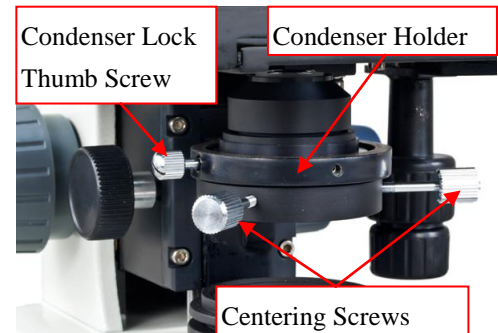

Fig.8
- Loosen the condenser lock thumb screw, pull down the condenser and take it off, insert the dry darkfield condenser in, and tighten the condenser lock thumb screw (See **Fig. 8**).